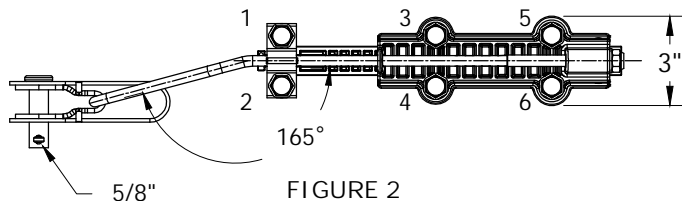

FIGURE 2
- (A) TIGHTEN BOLTS TO MANUFACTURER SPECIFICATIONS UNTIL BOLT HEAD TORQUES OFF.
- (B) THE PROPER BOLT TIGHTENING SEQUENCE IS AS FOLLOWS:
1. REFER TO BOLT NUMBERS 1-6 ON FIGURE 2 FOR CORRECT BOLT IDENTIFICATION.